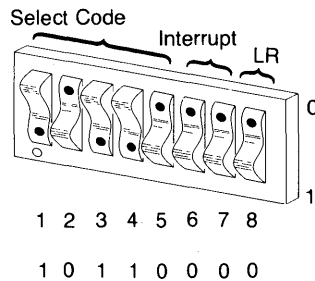

Figure 5-18. HP 98695A 3270 Coax Interface Switches
- a. Find the group of switches shown in Figure 5-18. Switches 1 thru 5 in this group determine the select code.
- a. The remaining switches should all be set to 0 as shown in Figure 5-18.